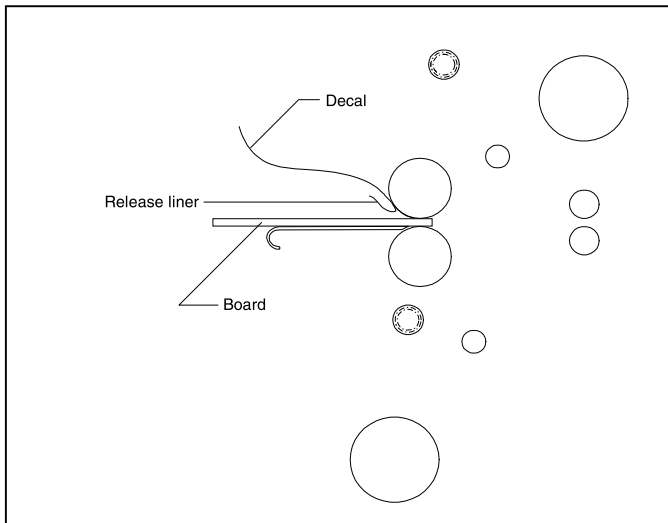

Fig. 41
TIPS FOR MOUNTING A DECAL (Figure 41)
1. Load the laminator as illustrated in Figure 41.